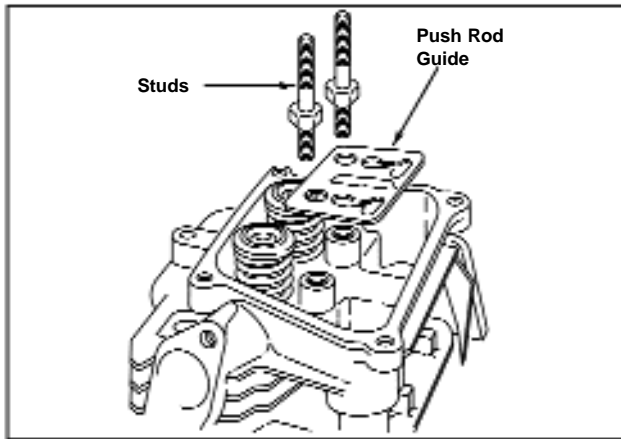

Figure 93 - Installing Push Rod Guide and Studs
3. Install rocker arm studs, torquing studs to torque listed in Table 8, page 7-40 . See Figure 93.